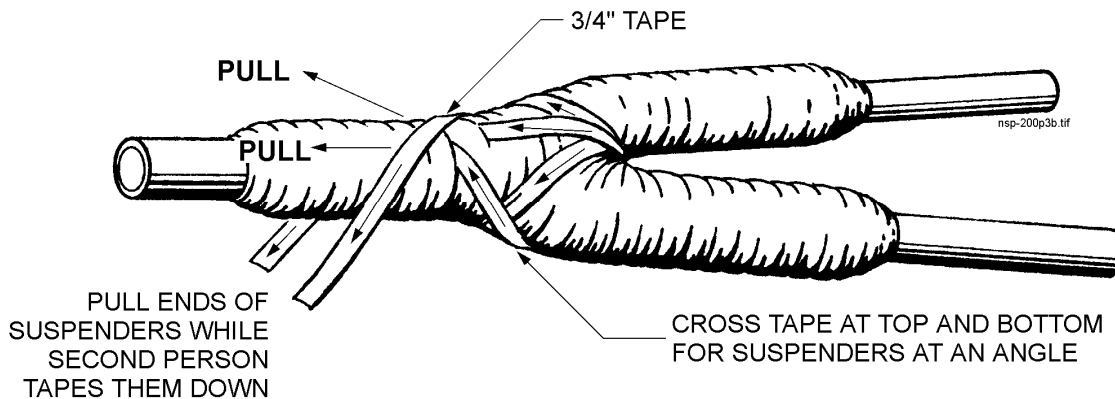

Figure 6
- L.** Start uniform buildup with three-quarter-inch varnished poly tape to conductor O.D. Apply three-quarter-inch varnished poly tape to build up stress cone and overall thickness as shown. Stop three-quarter-inch tape one-quarter inch from end of factory shielding tape. Apply 40° C taping oil between each tape layer. Figure-eight tape through crotch to get good early buildup. Use "suspenders" from tape in crotch to firm it up. See Figure 6.